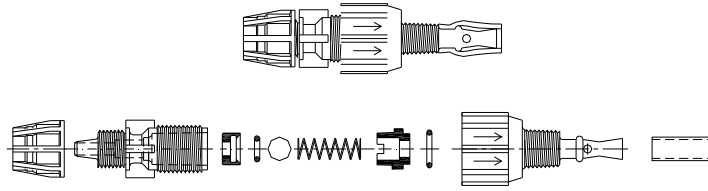

Figure 4: Injector valve
4) Apply Pipe tape to the injection fitting threads and install into piping system. **Do not remove the plastic sleeve on the tip of the fitting; it is a functional part** – see Figure 4.
To install tubing remove the compression fitting's coupling nut and sleeve and slide onto tubing with the sleeve located .38-in (9,5mm) from the tubing end – see Figure 4. Place tubing into fitting and hand tighten the coupling nut. NOTE: Immerse tubing in hot water to soften prior to pushing on to fitting. **Hand-tighten only, do not use wrenches. For in line check valve location, do not insert the tube more than .38in into the valve body.**